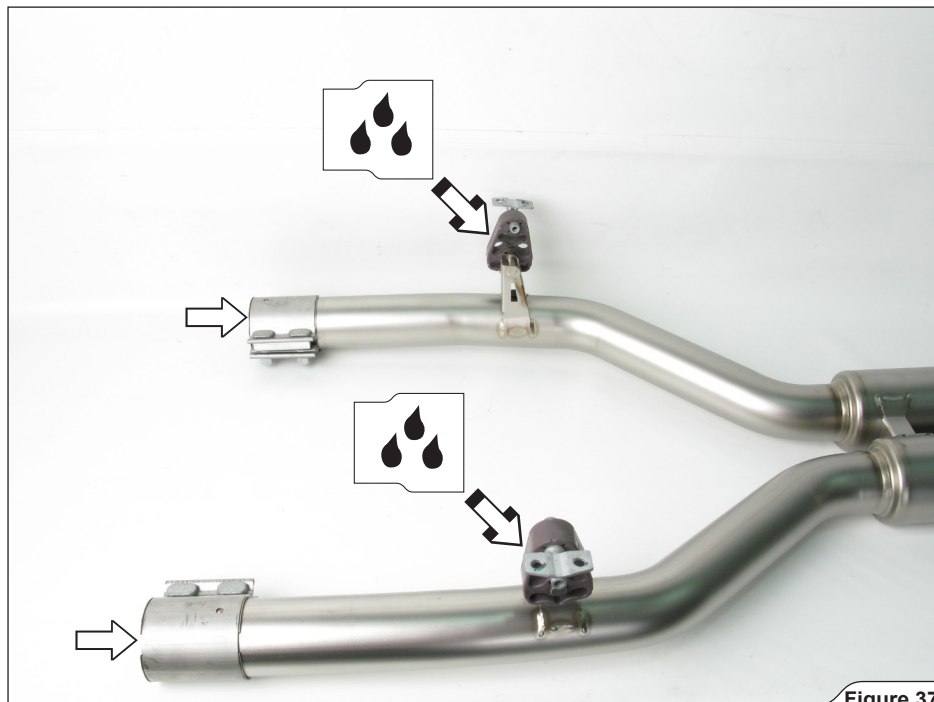

Figure 37
10. Assemble Akrapović connection clamps on the Akrapović Middle Pipe inlets, as shown (**Figure 37**).
11. Install stock rubber brackets on the Akrapović Middle Pipe and Akrapović Muffler. Tighten the marked bolts to a specified torque (**Figure 37, 38, 39, 40**).